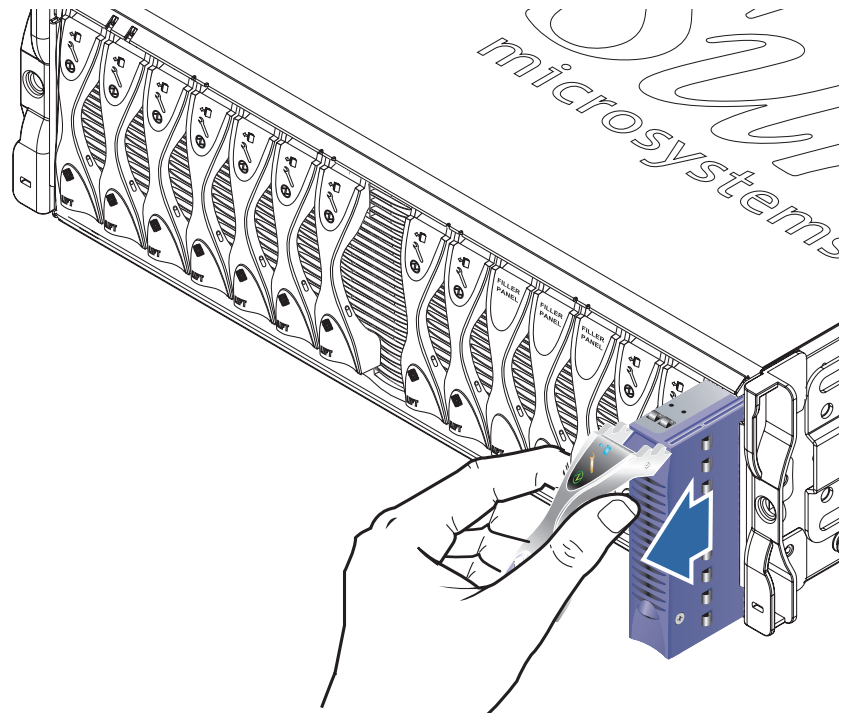

FIGURE 3-3 The Released Blade or Filler Panel Lever Mechanism
3. Pull the lever in a forward and upward motion, causing the blade lever to unlatch and eject the blade partially from the system chassis (FIGURE 3-3).